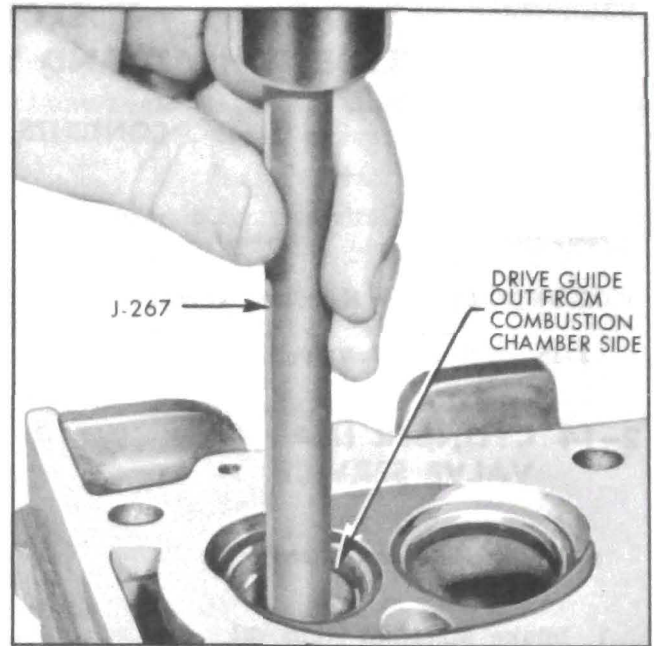

Figure 2-17—Removing Valve Stem Guide
- (a) Drive old guide out from combustion chamber side using tool J-267. See Figure 2-17.